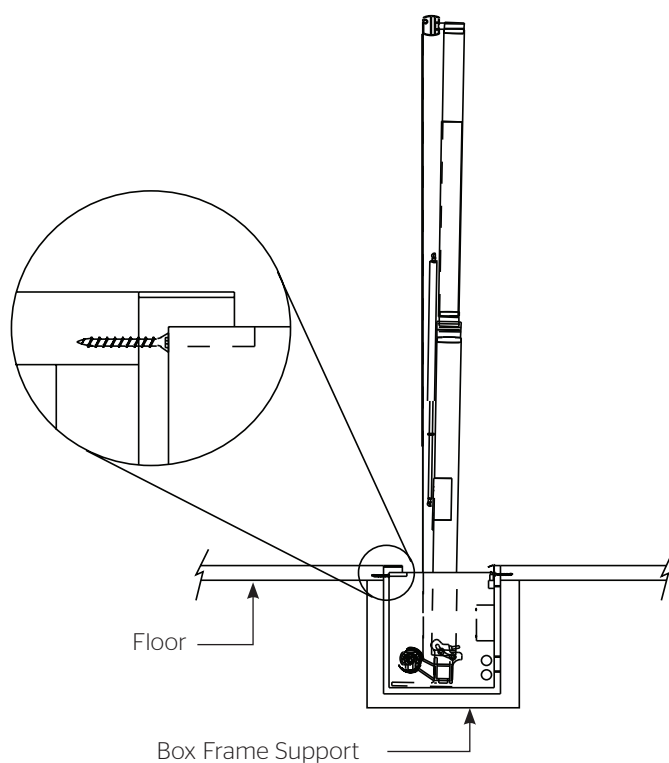

Figure 2
2. For installations where the Ascender will be recessed into the floor, the box must be secured in at least six places (recommended hardware is #12 x 2" L wood screws)(Figure 2).